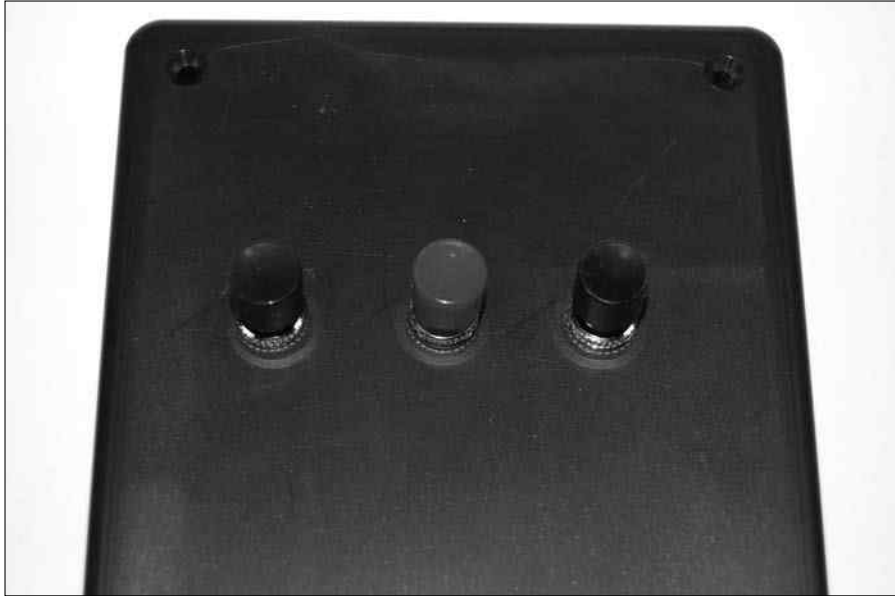

Figure 11-16:
9. Place the three switches through the holes, as shown in Figure 11-16, and secure them to the box with the nuts included with the switches.